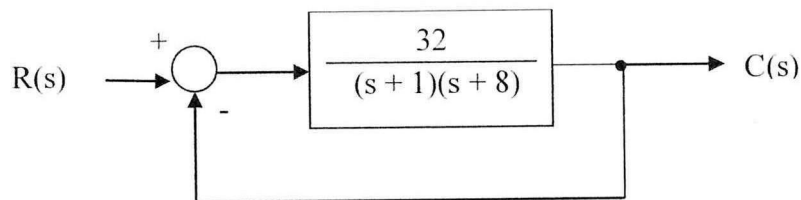

Figure Q3(c)
- (c) A feedback control system is given in **Figure Q3(c)**. If the control input of the system, $R(s)$ has been tested with two different inputs, which are step input ($u(t)$) and ramp input ($tu(t)$). Calculate steady state error for each kind of input. (5 marks)